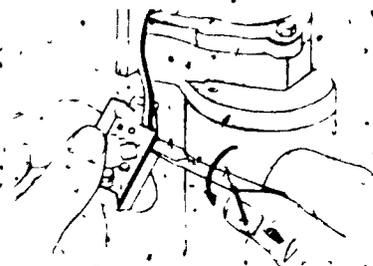

FIGURE 8
- c Cut stator leads close to eyelets (Figure 8)